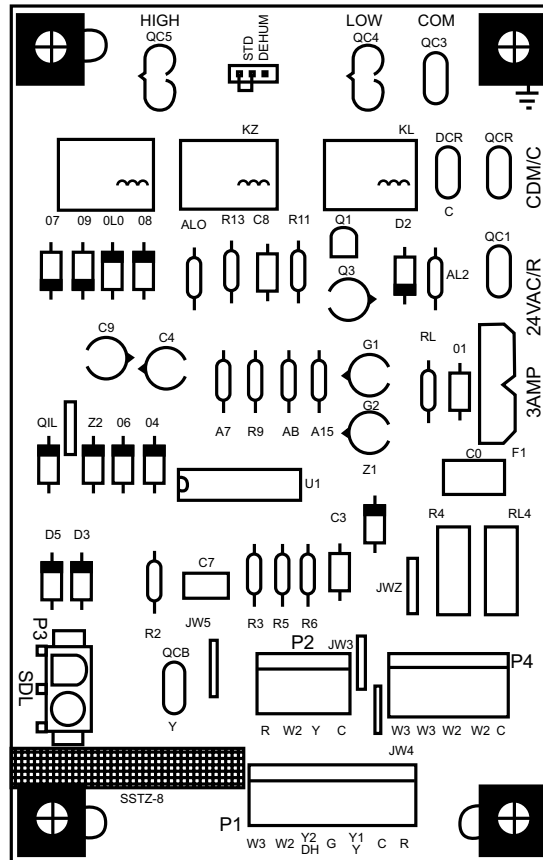

Fig. 24 – Interface Fan Board (IFB)
The cooling speed is marked “LOW” on the interface fan board (IFB) (See Fig. 24). The factory-shipped settings are noted in Table 6. There are 4 additional speed tap wires available for use in either electric heating or cooling (For color coding on the indoor fan motor leads, see Table 5). The additional 4 speed tap wires are shipped loose with vinyl caps and are located in the control box, near the interface fan board (IFB) (See Fig. 24).
2. Remove the current speed tap wire from the “LOW” terminal on the interface fan board (IFB) (See Fig. 24) and place vinyl cap over the connector on the wire.
1. Using Fig. 24, move the two pin DEHUM jumper from the “STD” position to the “DEHUM” position.
2. Remove fan speed tap wire from the “LOW” terminal on the interface fan board (IFB) (See Fig. 24).
1. Move the two pin DEHUM jumper located on control board (see Fig. 24) from the “STD” position to the “DEHUM” position.
When the DEHUM feature is not used, the continuous fan speed will be the same as cooling fan speed. When the DEHUM feature is used, the continuous fan will operate on IFB "LOW" speed when the DH control lead is not energized, or IFB "HIGH" speed when the DH lead is energized (see Fig. 24).